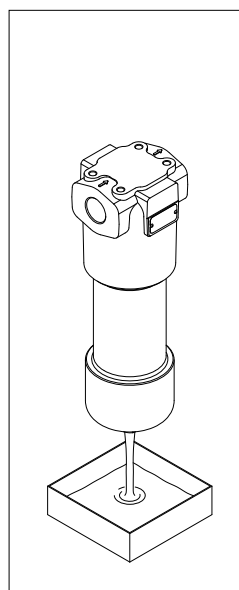

fig. 2
- (Fig. 2) Drain the operating fluid from the bottom of the bowl into the collection vessel